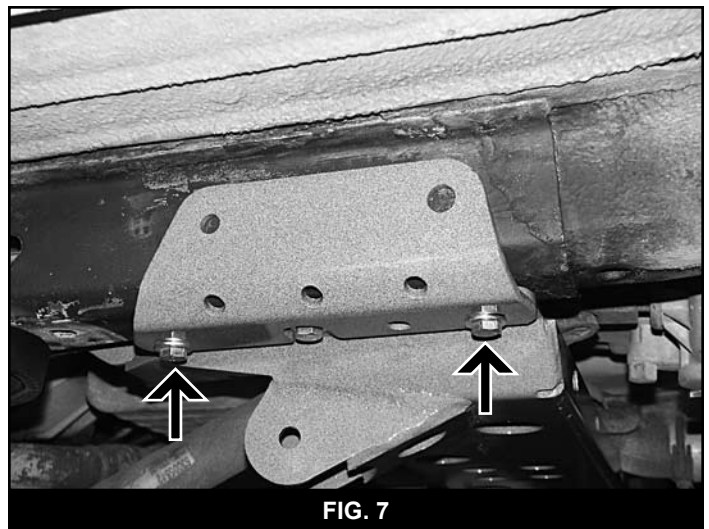

FIG. 7
17. Attach the side support plate so that they "sandwich" the crossmember between themselves and the frame (Fig 7). Attach the brackets with 10mm x 40mm bolts and 3/8" oversized washers (BP 715) in the forward-most and rearward-most holes in the side plates/crossmember. Ensure that the side plates are flush against the side of the frame and snug hardware.